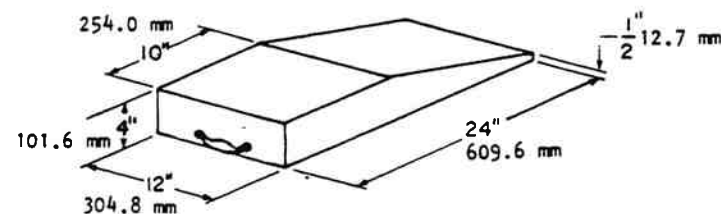

Figure 15-3. Run-up Block.
2. Run flat tire up on runup block. (Refer to figure 15-3.) Run up block is supplied in the coach tool compartment.